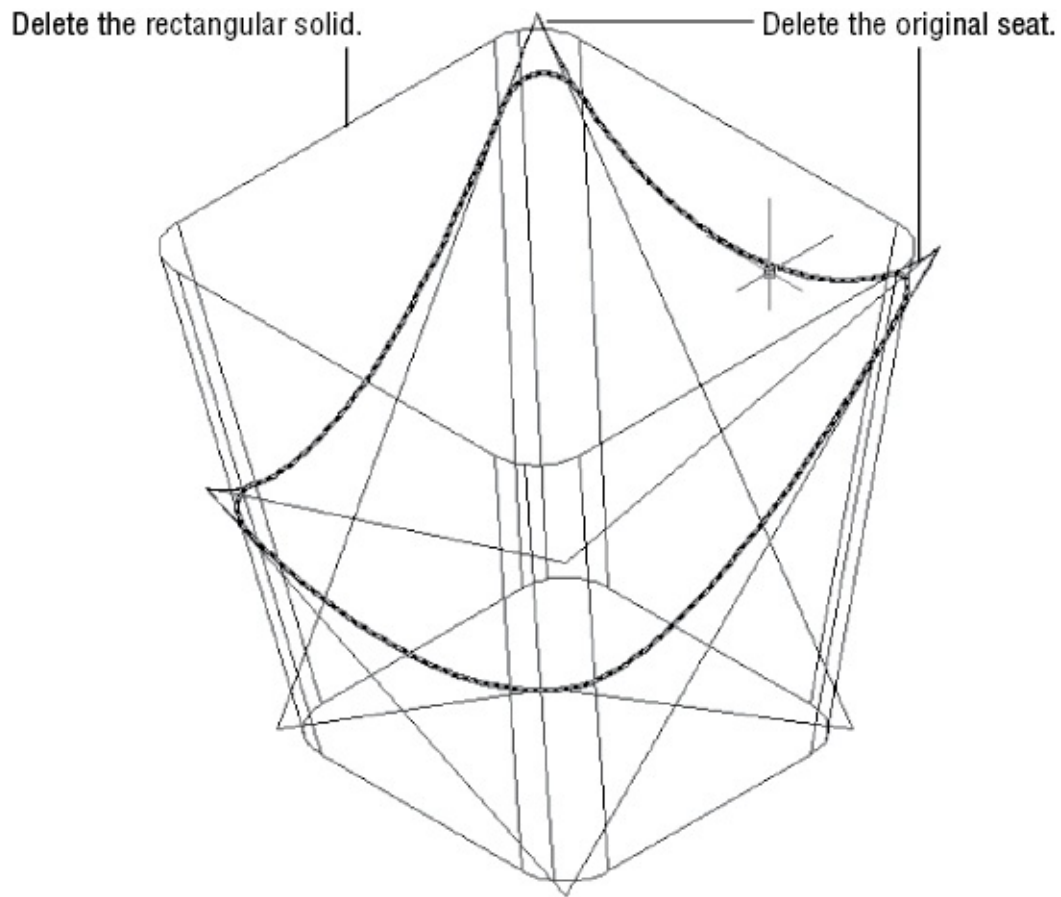

FIGURE 21.39 The interference solid appears on top of the original seat.
4. In the Interference Checking dialog box, deselect the Delete Interference Objects Created On Close check box and click Close. The display returns to the Wireframe view. If you look carefully at the seat corners, you see a new solid overlaid on the seat (see Figure 21.39).
5. Delete the rectangular solid and the original seat, as shown in Figure 21.39.